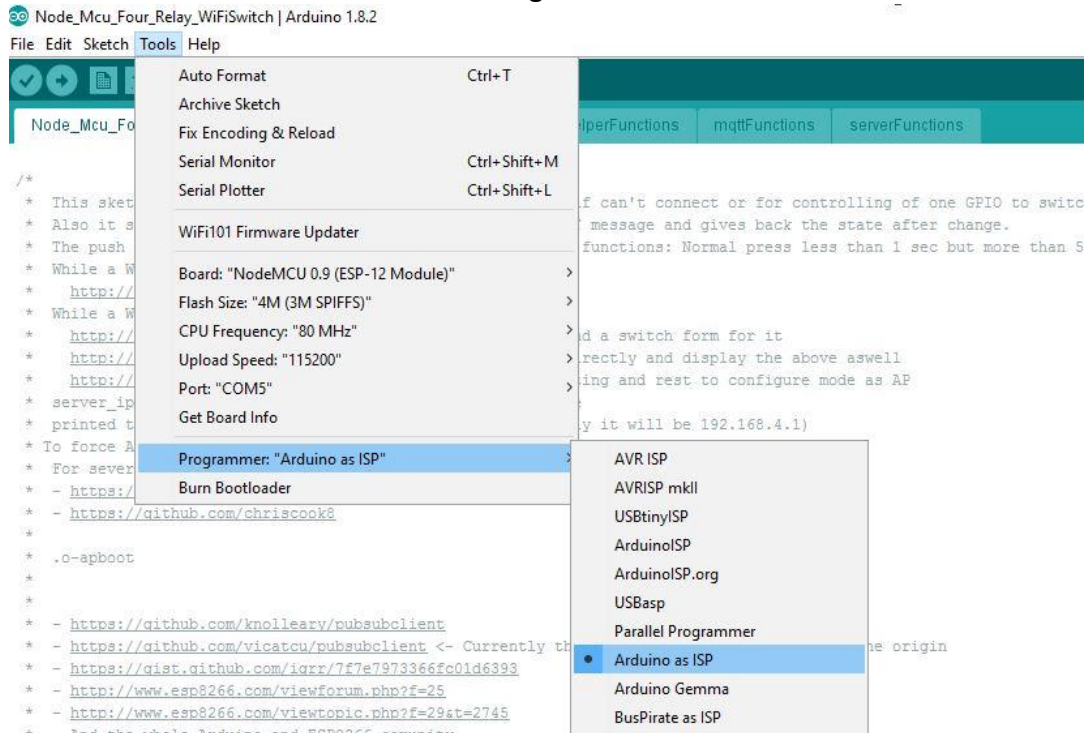

Figure 10: IDE Selection
9. Click on tools tab, move mouse pointer to “Programmer: “Arduino as ISP””, under this click on “Arduino as ISP” to select. Refer to figure10.